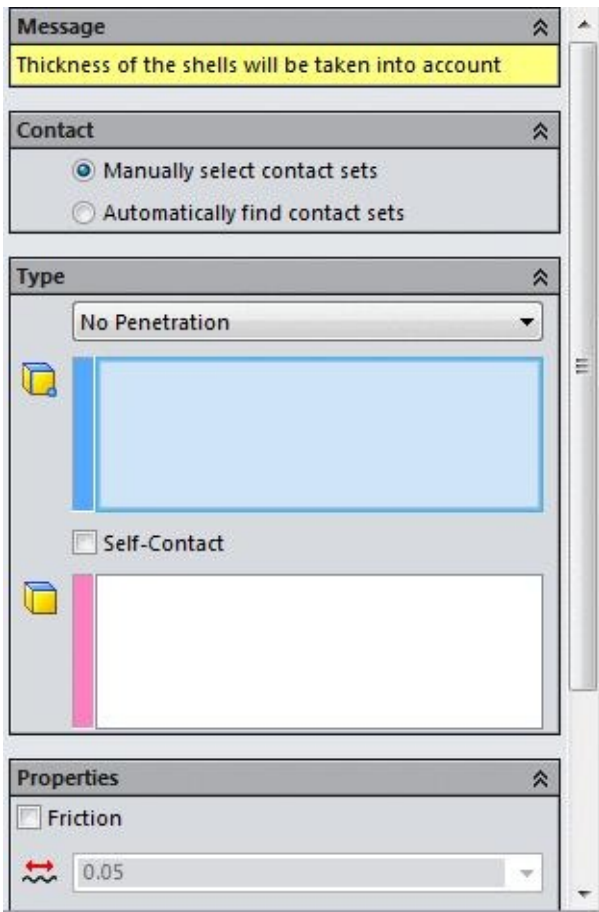

Figure-61. Options in Contact Sets PropertyManager on selecting No Penetration option
- Select the **No Penetration** option from the drop-down in the **Type** rollout. The options in the **PropertyManager** will be displayed as shown in Figure-61.